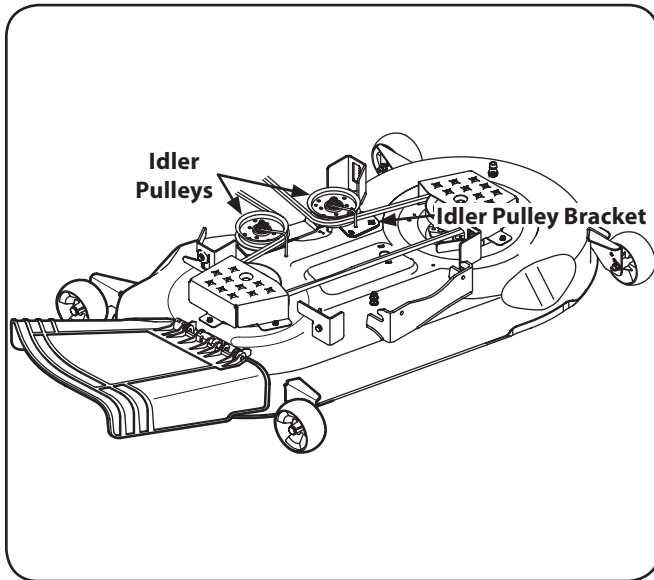

Figure 7-8
6. Route the belt as shown in Fig. 7-8. After routing the belt around the PTO pulley, use a ½" drive in the idler pulley bracket and turn towards the front of the tractor to finish routing the belt around the idler pulley.
4. Install the new belt around the spindle pulleys as shown in Fig. 7-8 and reinstall the belt covers.